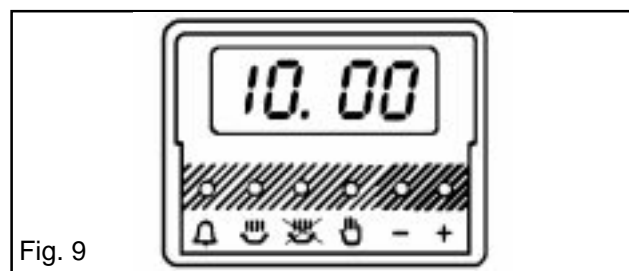

Fig. 9
- i) Ensure the electricity supply is switched ON and that the correct time of day is displayed, e.g. 10.00 a.m. as Fig. 9.